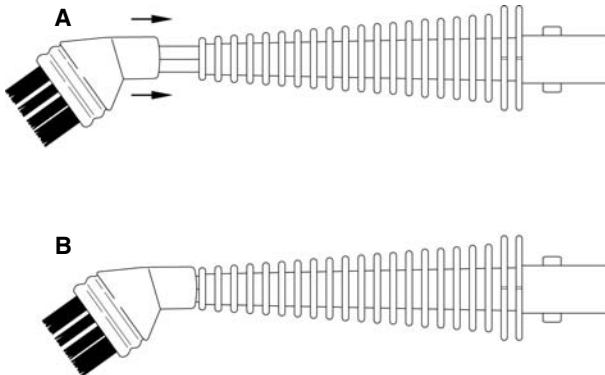

FIGURE 5
2. Firmly press Utility Brush onto tip of Jet Nozzle (FIGURE 5-A).
IMPORTANT: Make sure accessory is pushed as far as possible onto tip to ensure that it is properly set in place and space between the accessory and the Jet Nozzle is sealed (FIGURE 5-B). This prevents heated steam from escaping and causing injury.